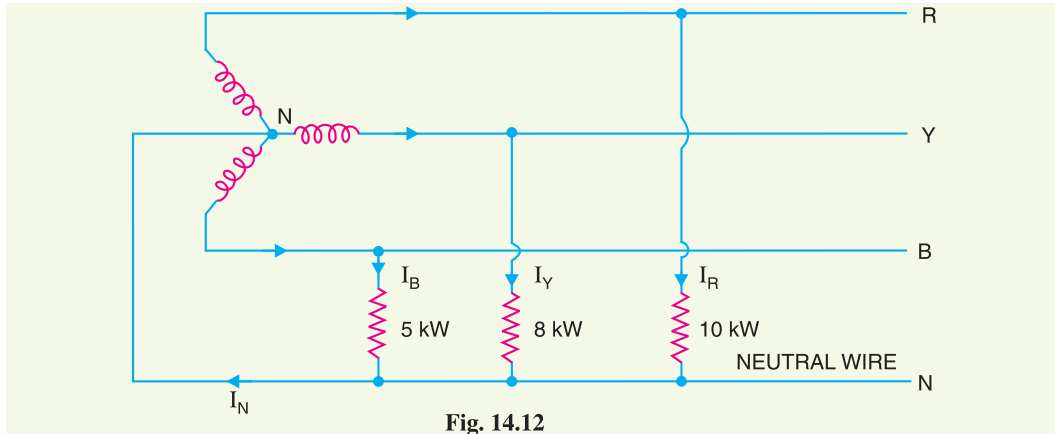

Fig. 14.12
**Solution.** This is a case of unbalanced load so that the line currents (and hence the phase currents) in the three lines will be different. The current in the \*neutral wire will be equal to the phasor sum of three line currents as shown in Fig. 14.12.